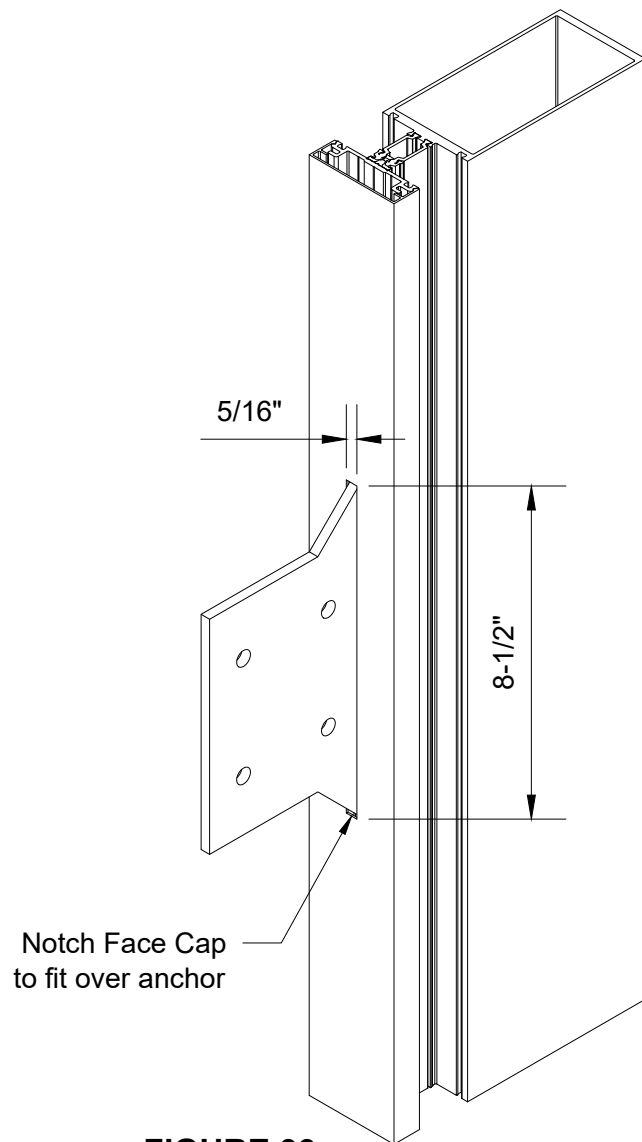

FIGURE 33
- 2) The face cap will be notched at sunshade anchor to fit over the sunshade anchor blade. See **FIGURE 33**. Face cap may also be notched at each end and spliced at center of anchor. WW-216 face cap shown, minimum $\frac{3}{4}$ " deep cap required for Reliance-TC Type II. Install caps per OBE standards as shown in Reliance installation manual.